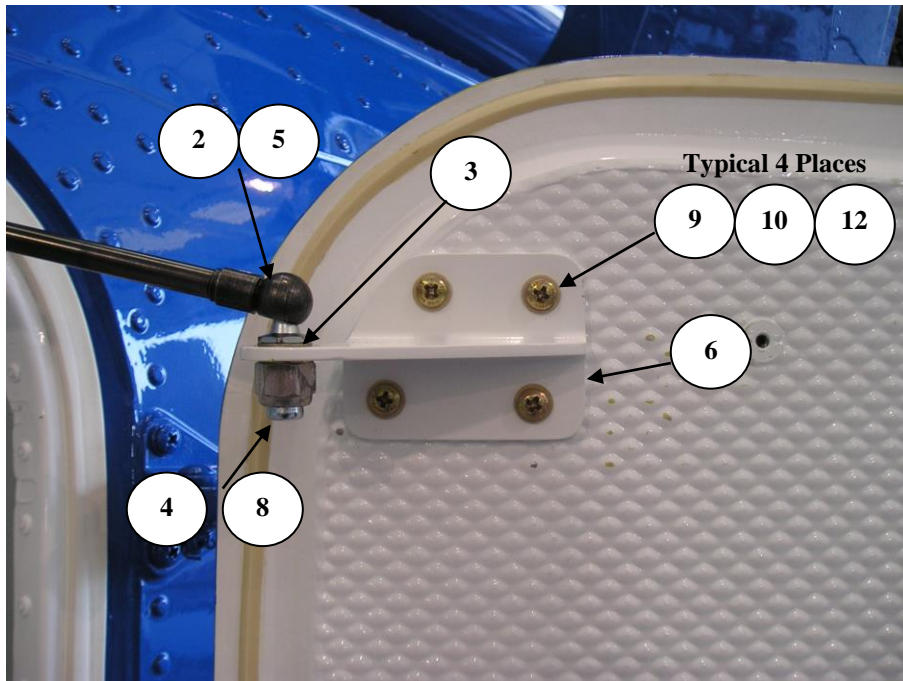
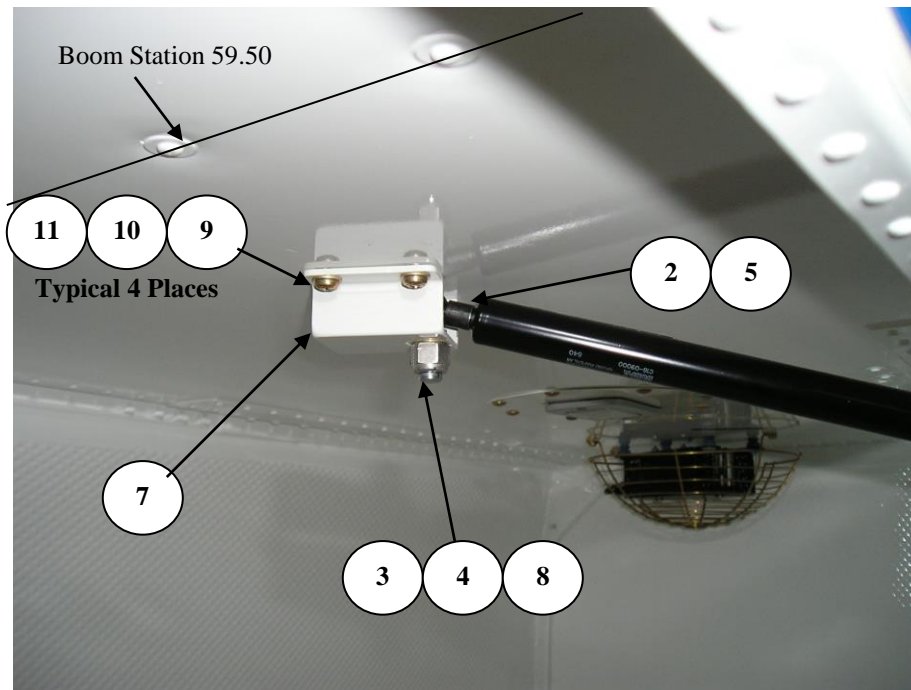

Figure 2
FIGURE 3
Removal gas spring (item 1) from ball stud (item 3) located on the baggage compartment door by removing the safety clip (item 5) from the ball socket (item 2). Remove bracket (item 6) by removing the four screws and washers noted in figure 2. Remove bracket (item 7) by removing the four screws and washers noted in figure 3. Reinstall the screws and washers removed into the inserts to prevent insert damage.
- Install brackets (item 6 and 7) using hardware shown in figure 2 and 3 respectively.
- Install gas spring (item 1) to ball stud (item 3) located on the baggage compartment door by installing the safety clip (item 5) into the ball socket (item 2).